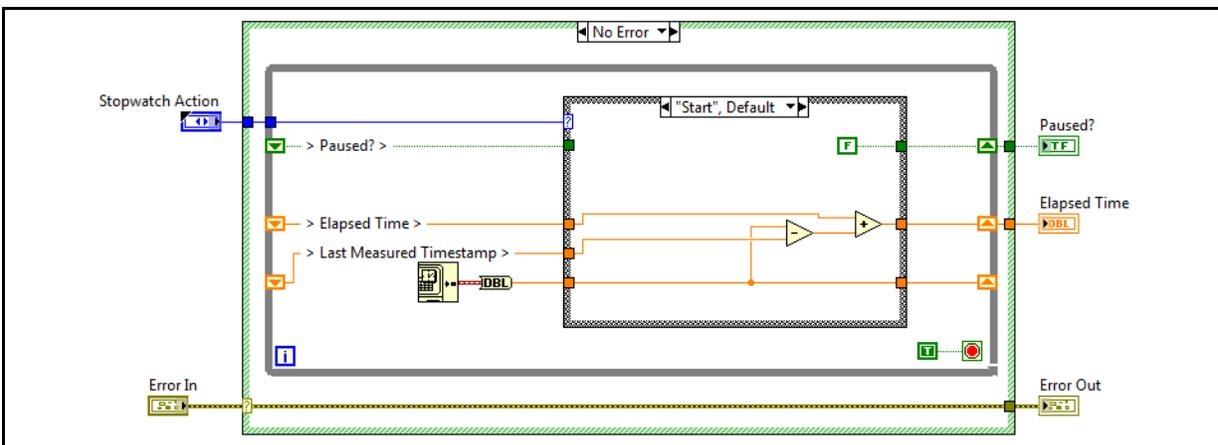

Figure 3. Completed Start Case of the Functional Global Variable
4. Wire the Start case of the Case structure as seen in Figure 3.